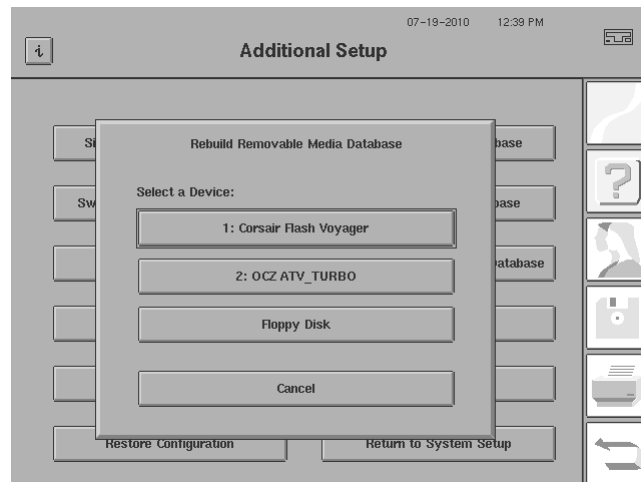

Figure 11.3 Select Removable Media Device
2. A dialog appears prompting you to select a device (Figure 11.3).